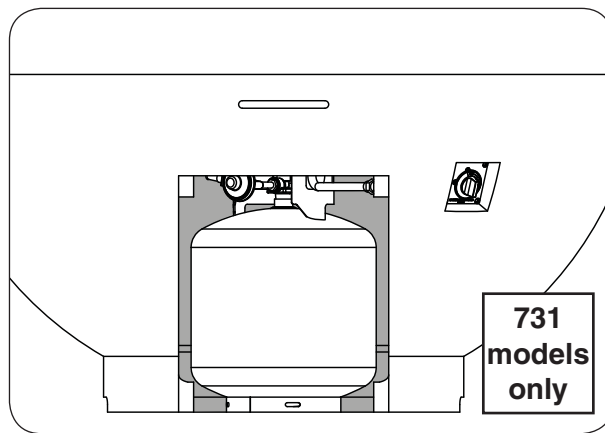

Fig. 23-2 L.P. cylinder placement
3. The propane cylinder (not included) is to be located inside the base of the unit, via the storage door opening (see Fig. 23-2).